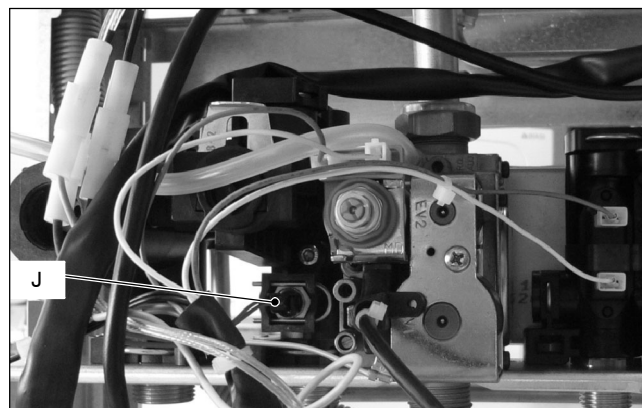

Fig. 7
- 5 Disconnect d.h.w. temperature probe, respectively *J* (Fig. 7).